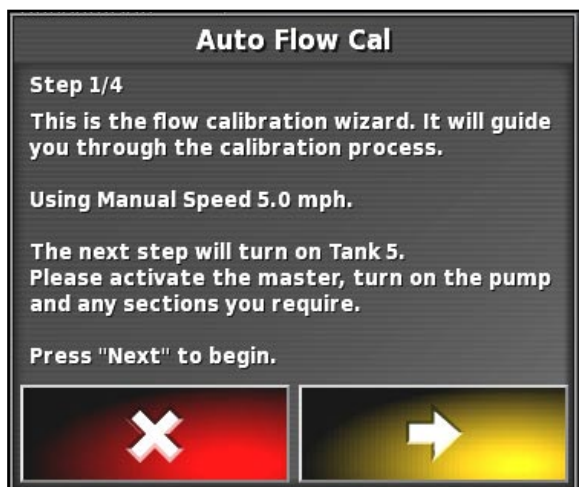

Figure 8.48 - Liquid Calibration Wizard - Screen 1
2. Select Automatic Calibration (Item D, refer to *Figure 8.46*). Liquid calibration wizard window will appear, refer to *Figure 8.48*. Read and follow instructions. Proceed to the next step.